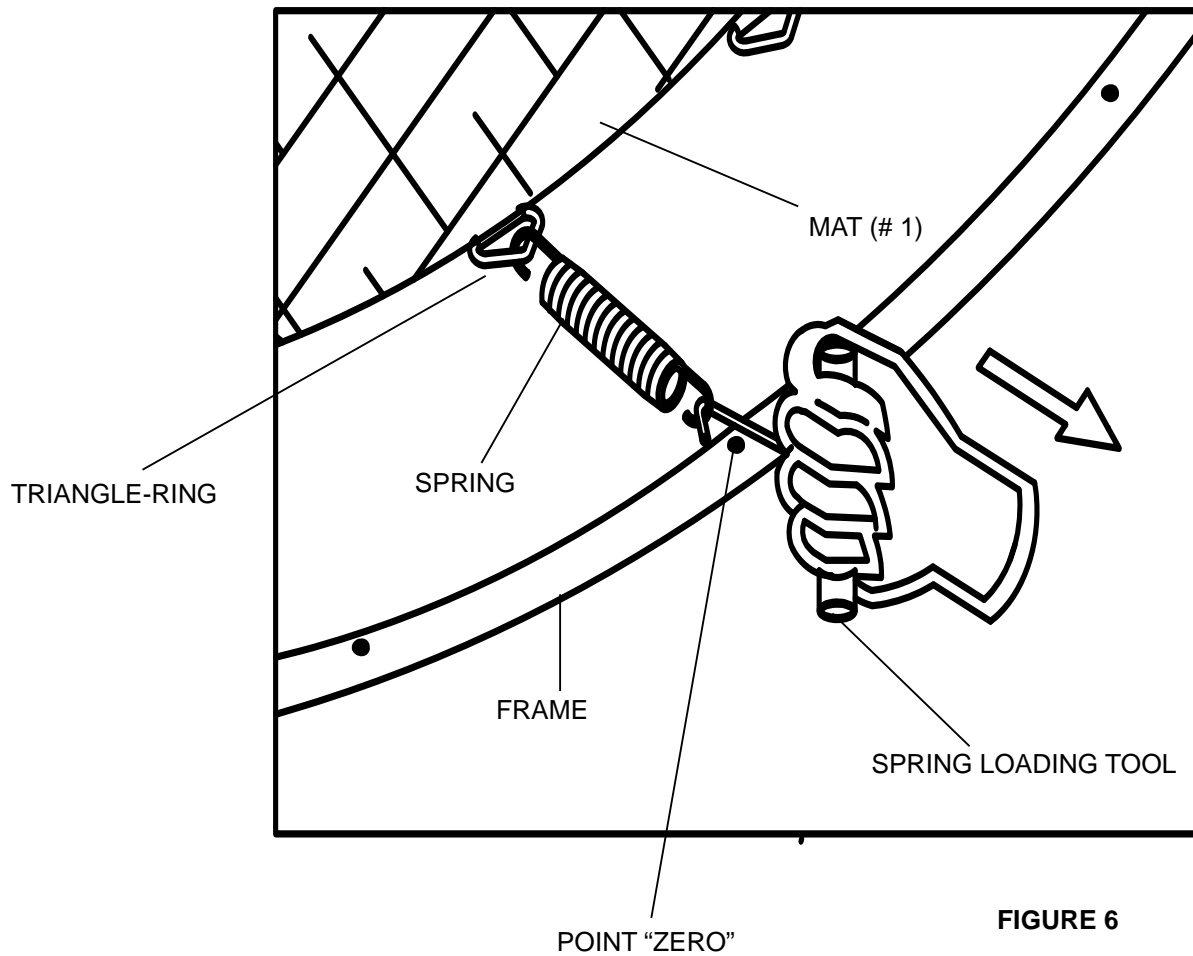

FIGURE 6
- B. Select an arbitrary point on the Frame (call it Point "ZERO"). Hook one end of the Spring (# 7) into the triangle-ring on the Mat (# 1). Holding the Spring Loading Tool underhand, pull the other end of the Spring towards point "ZERO" and drop the hook into the hole on the Frame as shown in FIGURE 6. Tap on the Spring to make sure it is securely latched into the hole.